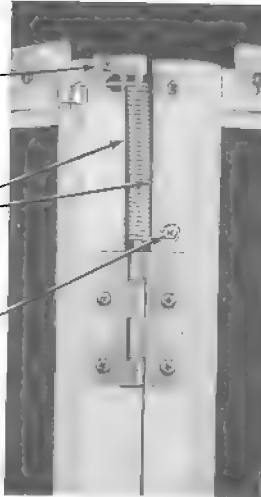

Fig. 25—Installation of Top Hinge Assembly
- Check spring of top hinge assembly. Replace if defective (Fig. 25). Replace all earlier type assemblies with the new top hinge assembly per Fig. 25.